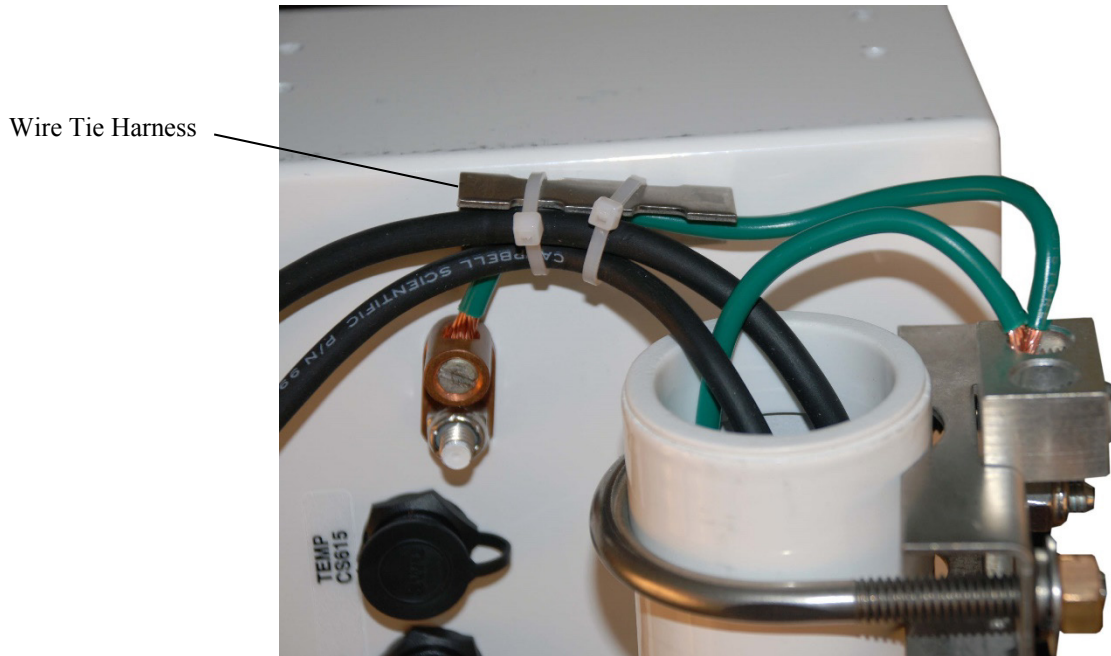

FIGURE 2-45. Cabling Strapped to Wire Tie Harness
1. Loosely wire tie power, communication, and grounding cable to the wire tie harness at the top of the back of the station. Do NOT clip back the wire tie at this time. See FIGURE 2-45.